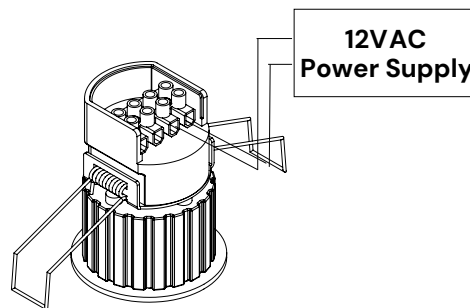

Figure 1
- Insert the secondary leads of the 12V transformer (Figure 1) into the terminal blocks.